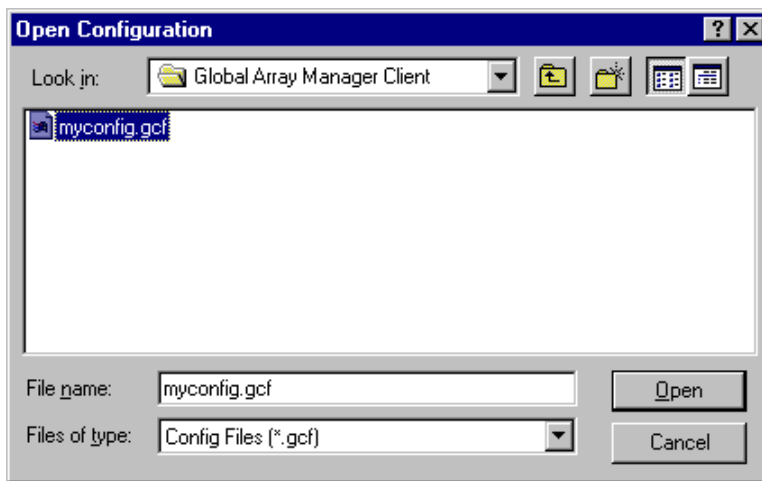

Figure 4-43. Open Configuration Dialog Box
1. In the Open Configuration dialog box (Figure 4-43), select the configuration file you wish to open to save to the controller.
1. In the Save Configuration dialog box (Figure 4-43), type a name for the configuration file you wish to save.